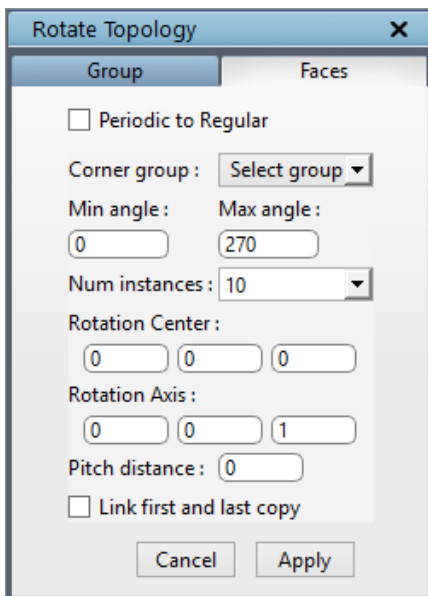

Figure 4.72: Faces tab dialog box
**Rotate topology**→ **Faces**, which is used for rotating the given wireframe using the angle, number of instance and the pitch. This tool can be useful where geometries have same cross section but in a cylindrical or helical path. When you have a same cross section, you can create a 2D wireframe on a plane and then copy it to the end of the cross section using the copy drop back edges button if it is on the same axis. But when the axis is changing in a cylindrical or helical path, it becomes difficult to copy and move it to position the wireframe approximately to the geometry. So in such cases the Sheet rotation can be used to copy the wireframe. Figure 4.72 shows the dialog box of the Faces tab.